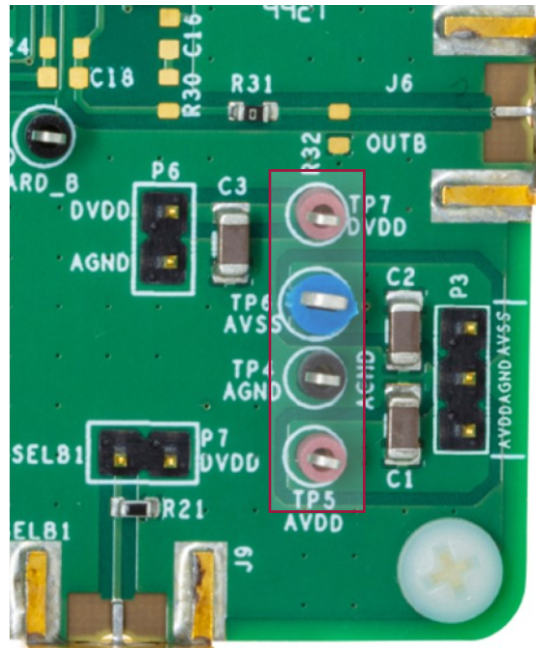

Figure 6. Power Supply Pins (from Top to Bottom: DVDD, AVSS, AGND, AVDD)
- Connect the supplies to the designated test points, as seen on the evaluation board silk screen from Figure 6.